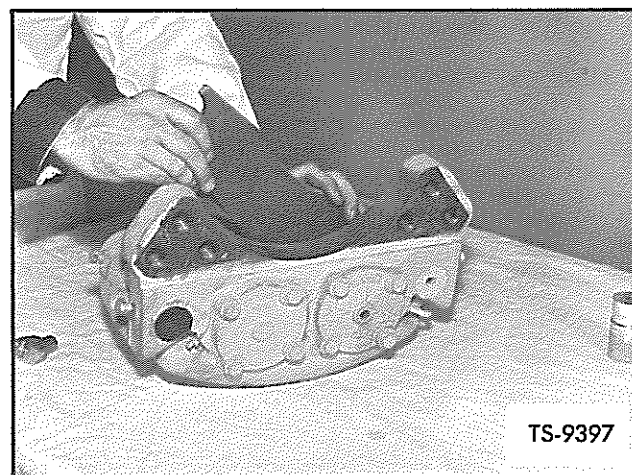

Fig. 29. Install Carrier and Lining
23. Install carrier and lining assemblies in torque plate as shown in Figure 29. If lining material is worn to $\frac{1}{8}$ inch thickness replace lining.